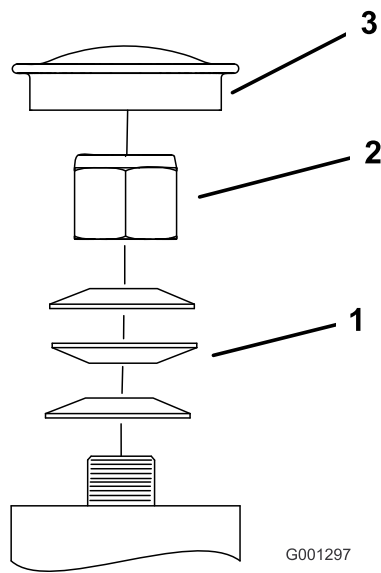

Figure 65
3. Remove the dust cap from caster and tighten the locknut (Figure 65).
4. Tighten the locknut until the spring washers are flat, and then back off a 1/4 turn to properly set the preload on the bearings (Figure 65).
Important: Make sure that the spring washers are installed correctly as shown in Figure 65.
5. Install the dust cap (Figure 65).